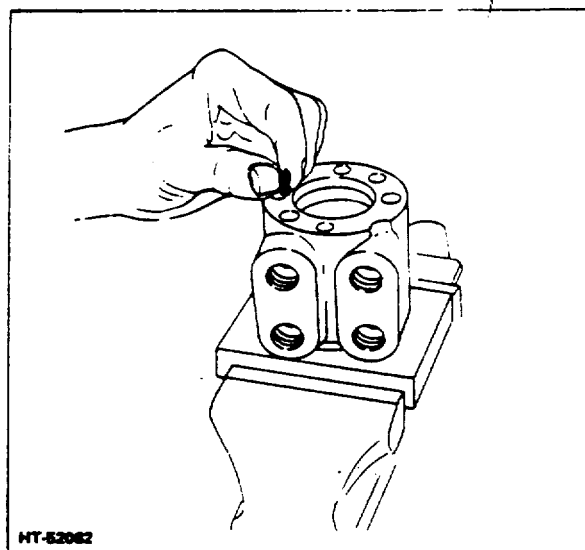

Figure 3-14. Installing Check Valve Spring
- Install housing in vise with control end up and 14-hole end resting on a clean wooden block. Clamp lightly across the port surface and install check valve spring into check bore with large end down (Fig 3-14).